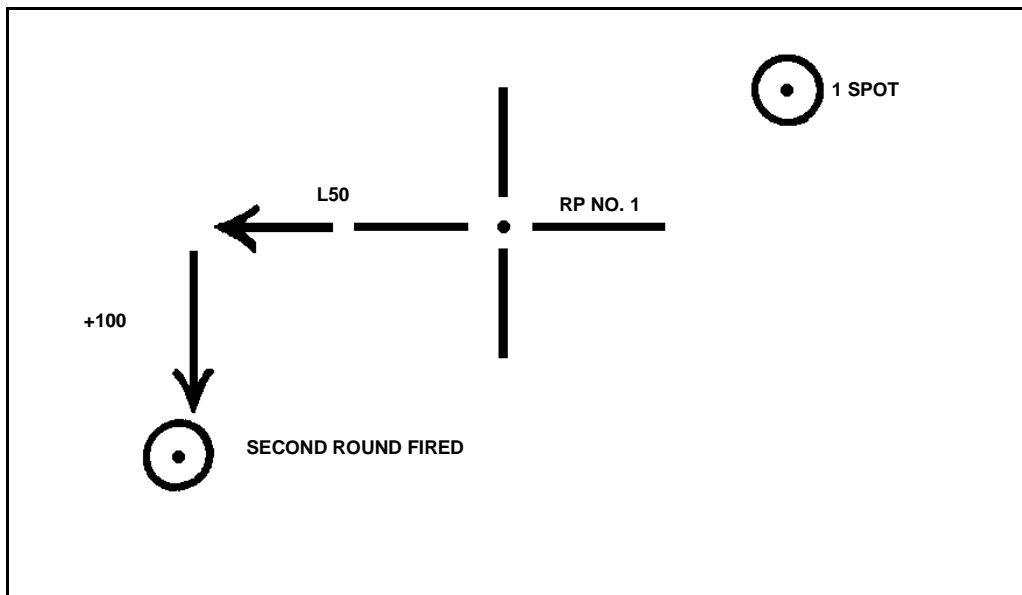

Figure 14-12. Application of correction to fire the second round.
(4) Once the spotting has been determined, the FDC converts the spotting into a correction to fire the second round. He does this by reversing the signs of the spotting. He then applies that to the registration point on the azimuth of the radar position (Figure 14-12).